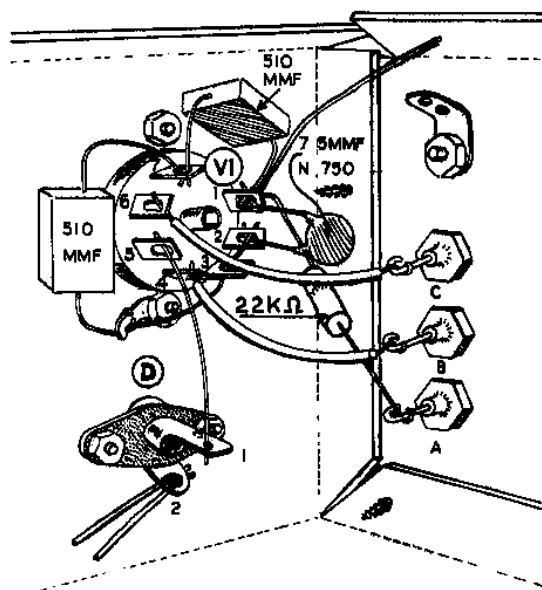

Figure 1
- (✓) Referring to Figure 1, cut one lead of a 22 K ohm (red-red-orange) 1/2 watt resistor to 1/2" and connect to V1-1 (NS). Leave the other end free.
- (✓) Pass one end of a short length of #20 bare wire through V1-3 (NS) and then connect to V1-2 (NS). Connect the other end to the small solder lug on the tube socket mounting screw (NS). Now solder V1-3 (S1).
- (✓) Connect a 510 mmf (green-brown-brown) mica capacitor from V1-7 (NS) to the small solder lug (S2) on the socket. Route capacitor around socket and position against the chassis.
- (✓) Connect a 510 mmf (green-brown-brown) mica capacitor from V1-1 (NS) to V1-7 (NS). Position capacitor against chassis, as shown, checking to make sure the bare leads do not touch the socket mounting screw or the end plate sheet metal screw.
- (✓) Trim both leads of a 75 mmf N750 capacitor to 3/4" and connect from V1-1 (NS) to V1-2 (S2). Use only about 1/4" of the leads for the connections and leave the capacitor supported on 1/2" leads directly away from the tube socket as shown. Leave room for the near cover plate sheet metal screw.